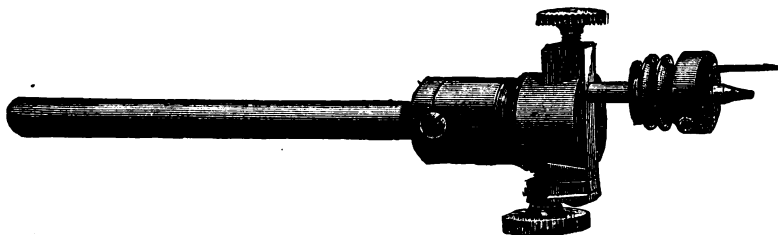

Fig. 6.
**Squire's Adjustable Runner, with Ferrule.**—Fig. 6 represents an adjustable runner combined with driving pulley, by Studley Squire. At the rear end is fitted a main runner, made in various sizes to suit different turns. At the fore end is a dovetail slide, which is adjustable with an up and down action by means of the nutted screw at the bottom. The dovetail carries a working runner, which clamped by the screw at the top and is reversible, having a centre of different size at each end. Similar runners are made with safety centres. The pulley can be thrown into, or out of, engagement with the work at will, being kept in position upon the runner by means of an ingenious device fitted spring tight upon the runner and provided with a slot in which